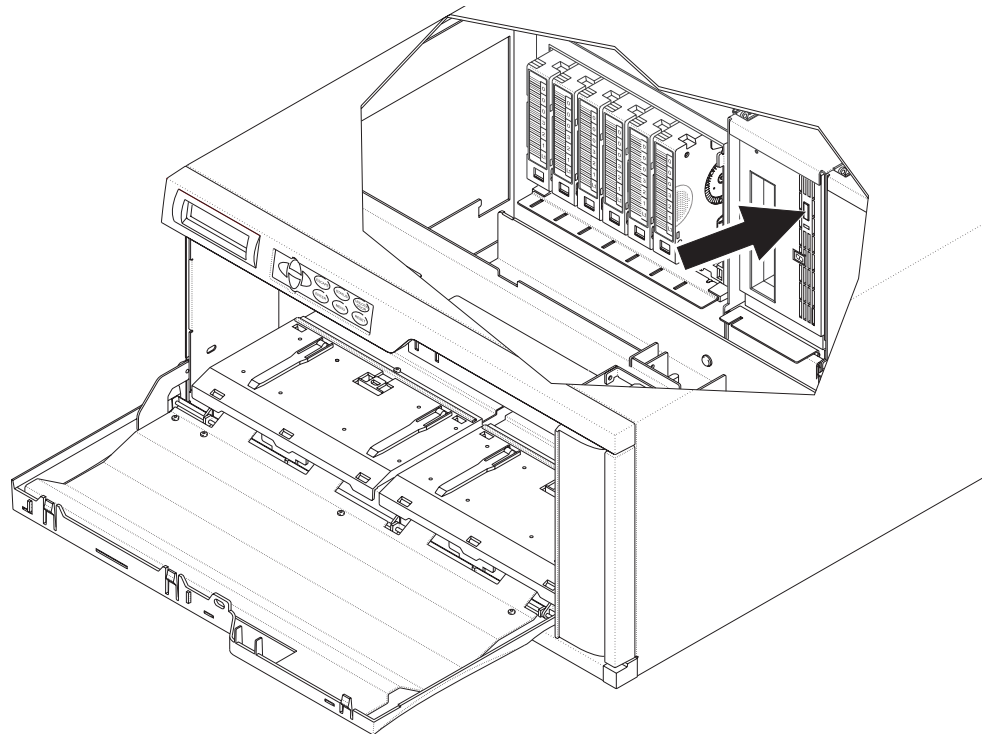

Figure 4-8 Using the tape drive's unload button to manually eject a cartridge
3. Press the unload button on the drive's faceplate, as shown by the arrow in Figure 4-8.